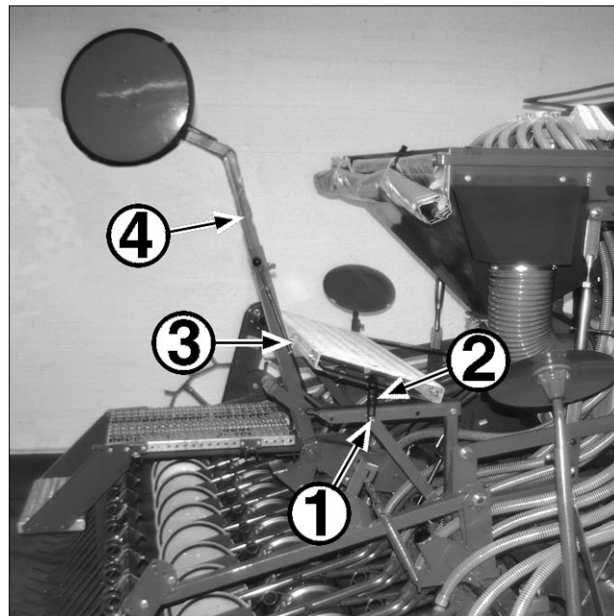

Fig. 24-11
5. Fix a screw (M 12x60, 1 in fig. 24-11) to one of the angle sections, securing it with the aid of two nuts. This screw serves as a means of attaching the rubber tensioning strap (2).
8. Attach the plastic slide (3) to the safety grating in such a way that, when the pre-emergence marker (4) is raised out of its working position, the marker arm strikes the plastic slide and raises the platform (see fig. 24-11).